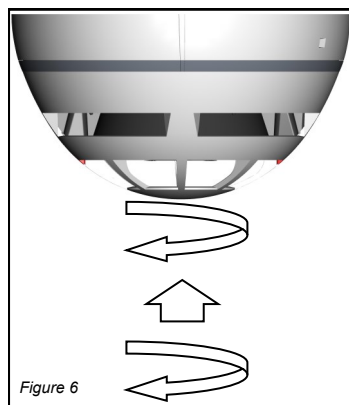

Figure 6
2. Rotate clockwise applying gentle pressure (figure 6).